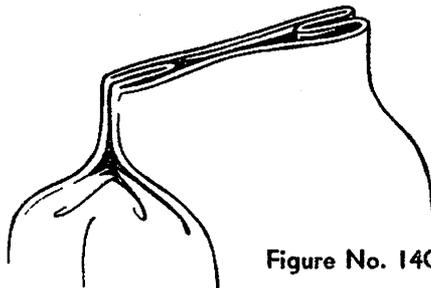

Figure No. 14C
- C. Bring top of bag upright into closing position. The sides will be close together, smooth, and wrinkle-free. (See Fig. No. 14C.)